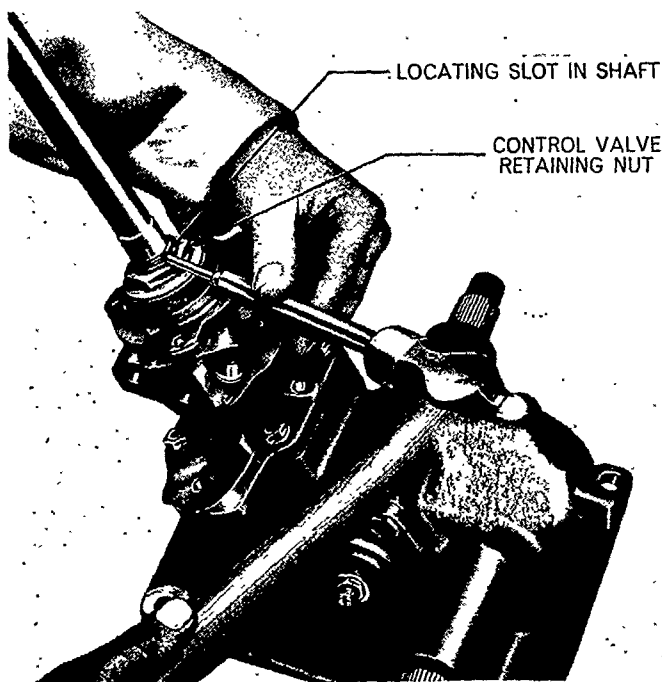

Figure 44
6. With the preload washer on the shaft tighten the retaining nut until all slack is removed. Slacken the nut about $\frac{1}{8}$ of a turn and stake nut to the shaft, Figure 44.